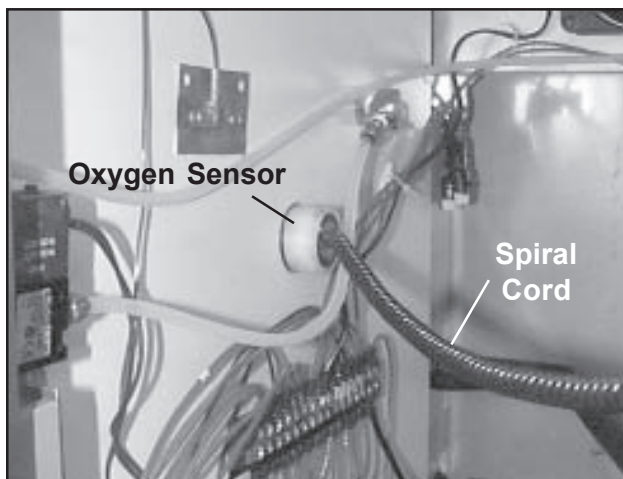

Figure 95. Oxygen Sensor Inside the Electronics Compartment
1. In the electronics compartment (Figure 95) twist the sensor slightly, and pull it out of the compartment wall. **Note:** Do not try to detach the spiral cord from the sensor.
2. The oxygen sensor rests in an opening in the left wall of the electronics compartment (Figure 95). Twist the sensor slightly, and pull it out of the compartment wall. **Note:** Do not try to detach the spiral cord from the sensor.